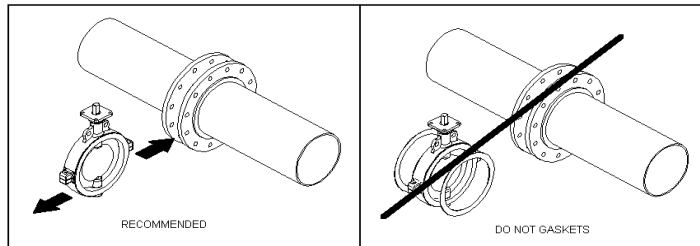

Fig 3.4: Installation of valve into pipe line.
b) Do not use flange gaskets Ref to fig 3.4